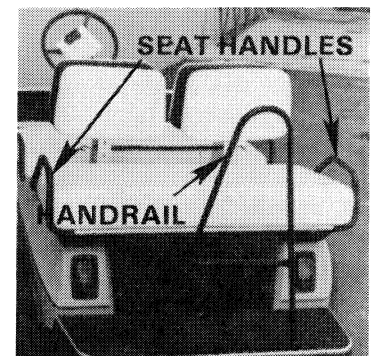

Figure 7
2. Be sure everyone is seated and holding onto seat handles or handrail (Figure 7).